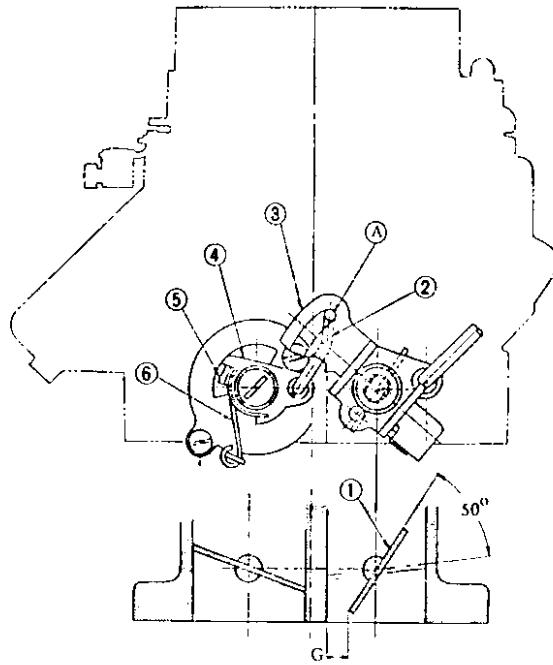

Fig. D.10 Adjusting the interlock throttle valve opening
Open the primary throttle valve 50° from the fully closed position as shown in Fig. D.10. At this angle the connecting link (2) should be at the extreme right of the groove in the primary throttle arm. The linkage between the primary and the secondary throttles is operating correctly if the clearance "G" between the primary throttle valve and the wall of the chamber is as follows: